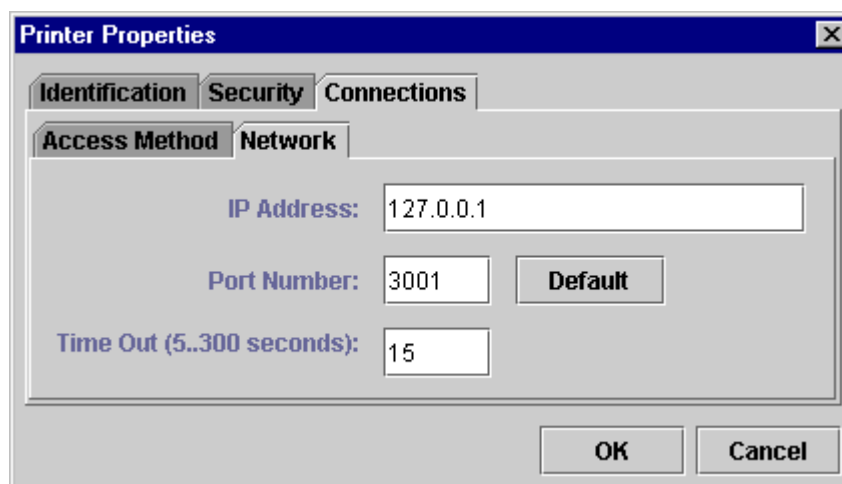

Figure 5. . Network Options
11. Click on the Network tab at the top of the Printer Properties window. See Figure 5.
12. Click in the IP Address box. Input the IP Address of the printer you want to access. Follow the format shown in Figure 5.